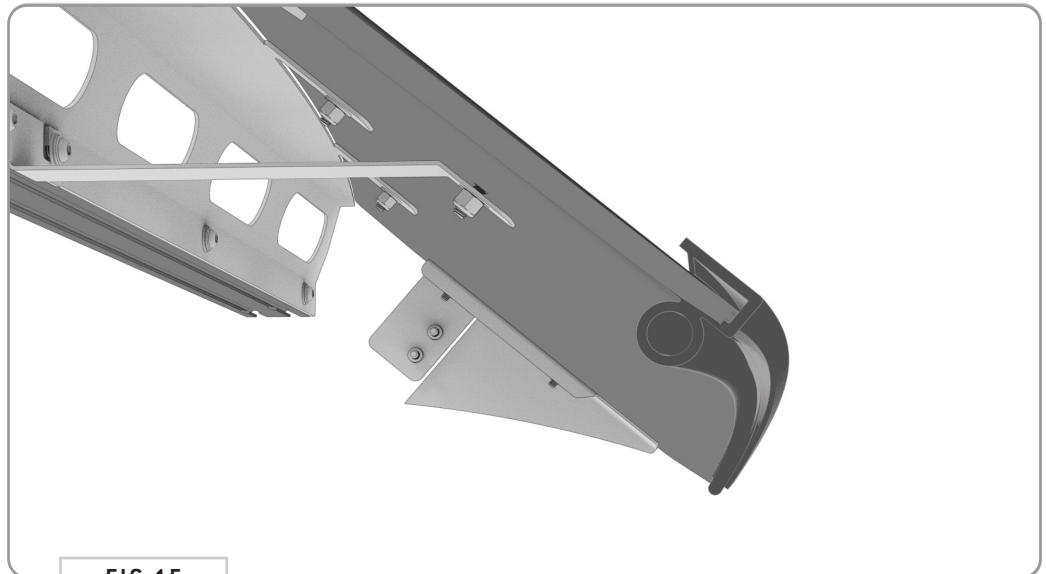

FIG 15
**4.7 Fairing Gasket Trim:** Attach the Fairing Gasket Trim to the Front Fairing in the orientation shown in FIG 15. Make sure the "bulbed" side is facing inward.